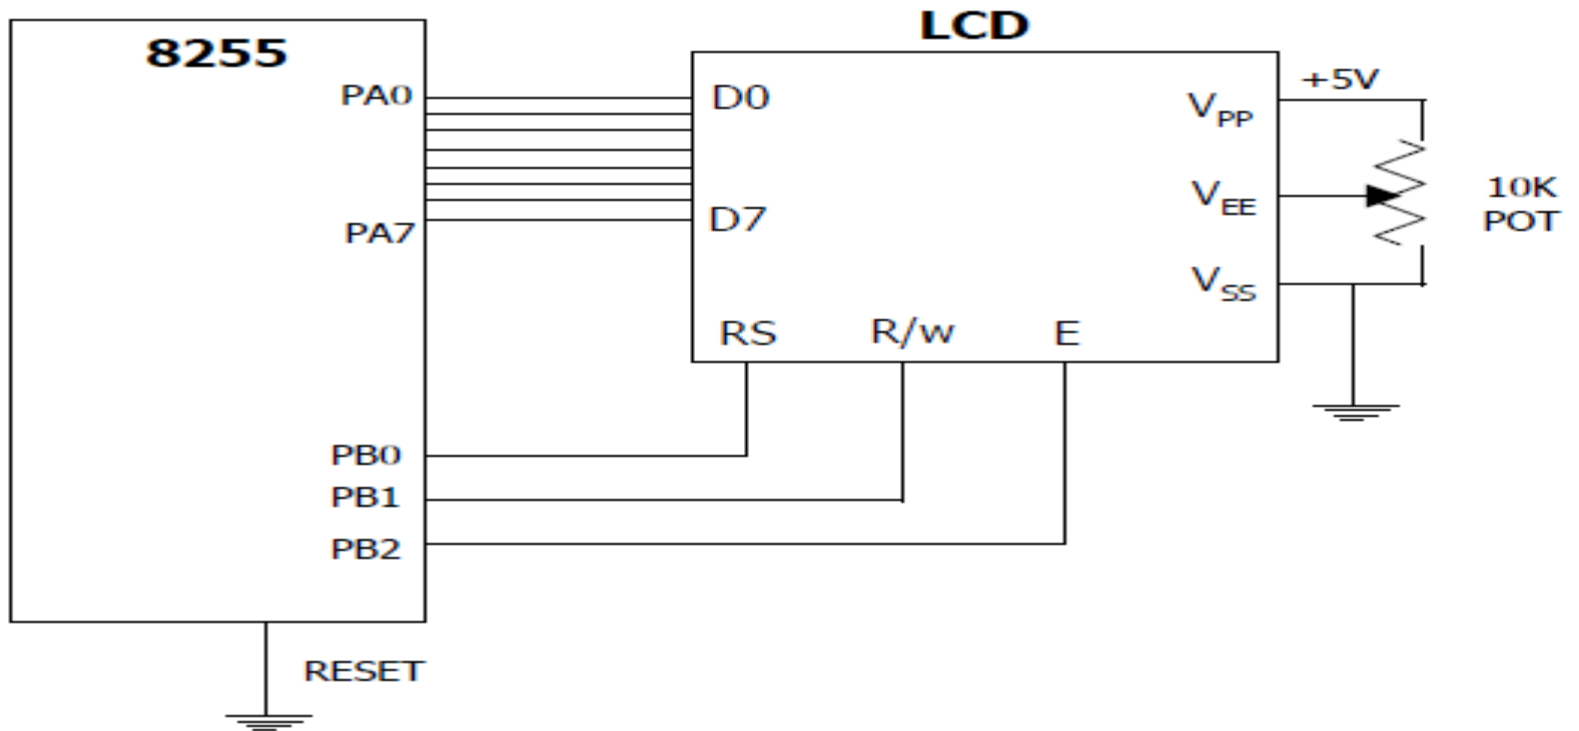

Figure 15-10. LCD Connection
- ▶ Program 15-1: Shows how to issue commands and data to an LCD. See Figure 15-10